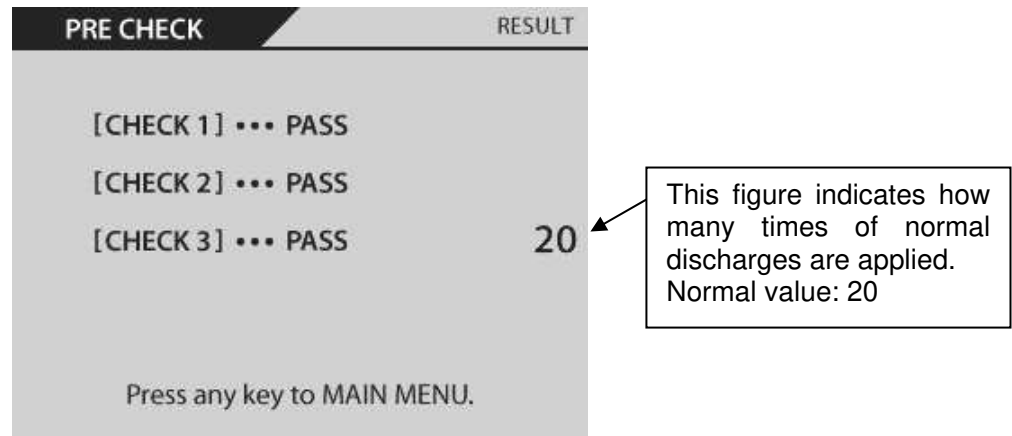

Figure 22-5 Displaying PRE CHECK Result ①
When [CHECK 1] to [CHECK 3] are completed properly, the screen as shown in **Figure 22-5 Displaying PRE CHECK Result ①** appears.